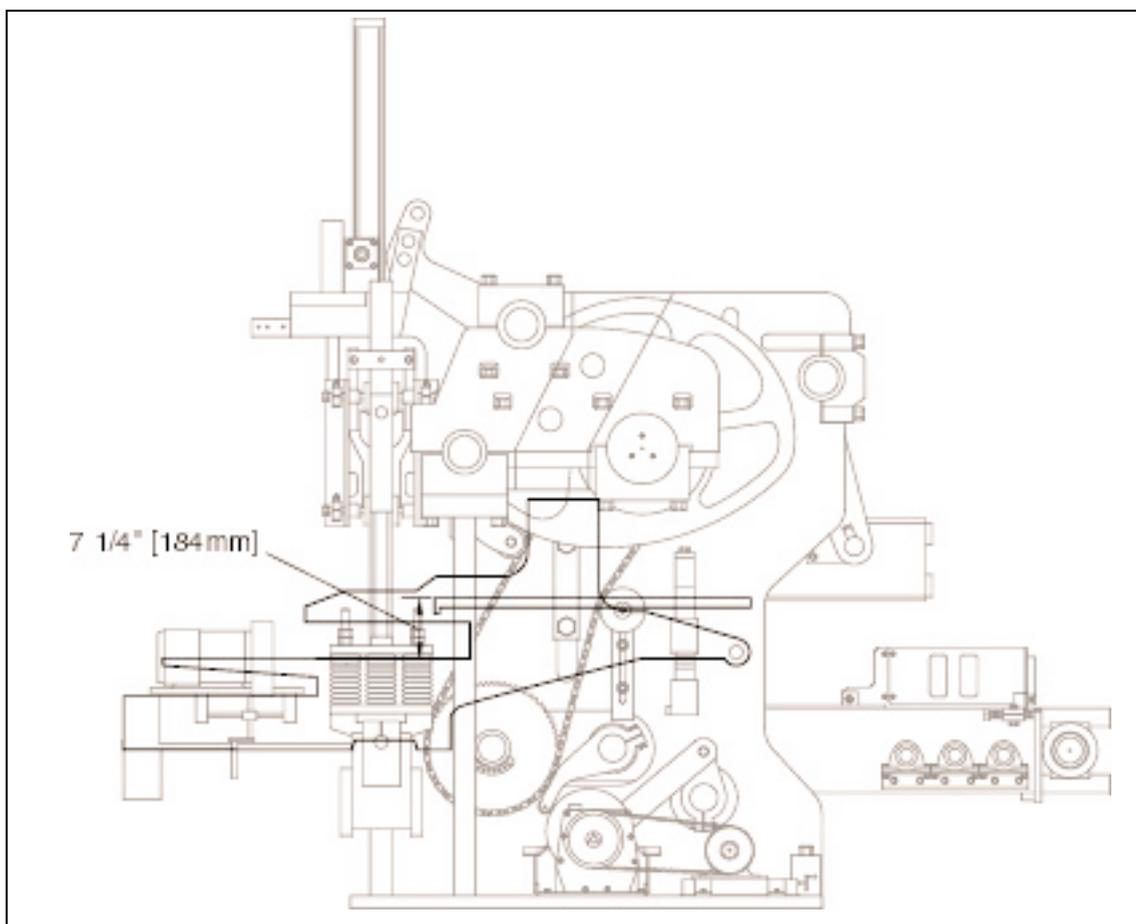

Figure 4.58 APRON PLATE ABOVE MOLD THROAT ADJUSTMENT.
- 4.4.3 Reconnect autofeed linkage and adjust so that the top of the apron plate is **184mm [7 1/4"]** above the mold throat at the lowest position of the autofeed (see figure 4.58). To adjust, lower or raise the autofeed until apron plate is in correct position.